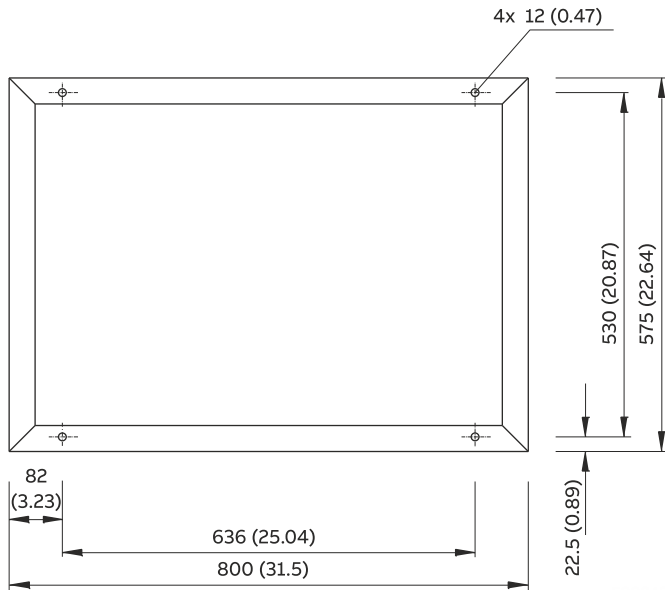

Figure 9: Installation holes, dimensions in mm (in)
- Build a concrete base with cast-in M10 stud bolts or base iron frame with holes or grating, see Figure 9.